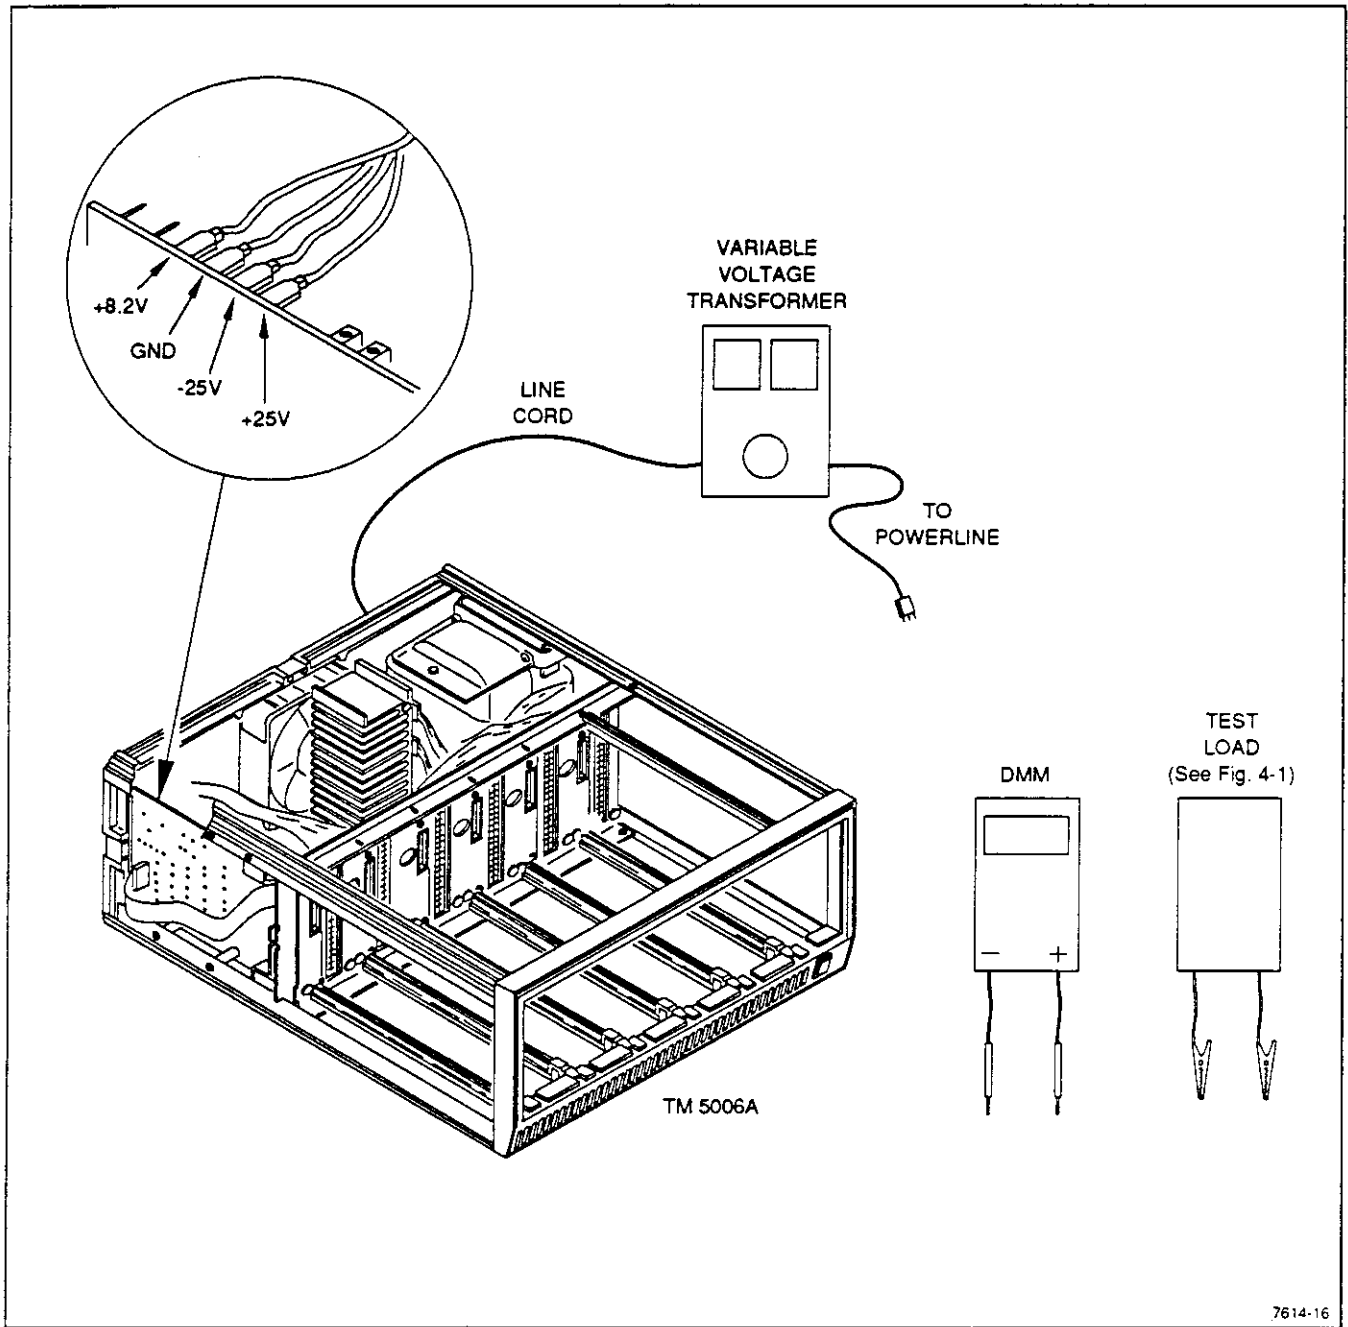

Fig. 4-2. Performance check setup.
Remove the top cover to gain access to the supply buses. Figure 4-2 shows the test point locations.
- Connect the test equipment as shown in Figure 4-2. Set the Variable Voltage Transformer line voltage for 10% below the nominal line voltage. (Nominal line voltage is the line voltage the instrument is set to operate on.)
- Connect a 4 Ω test load and the DMM between the +25 V supply and ground terminals shown in Figure 4-2.
- Connect the test equipment as shown in Figure 4-2. Set the Variable Voltage Transformer line voltage for 10% below the nominal line voltage.
- Connect a 4 Ω test load and the DMM between the -25 V supply and ground terminals shown in Figure 4-2.
- Connect a 0.46 Ω test load and the DMM between the +8.2 V supply and ground terminals shown in Figure 4-2.
- b. Connect a 0.46 Ω test load and the DMM between the +8.2 V supply and ground terminals shown in Figure 4-2.